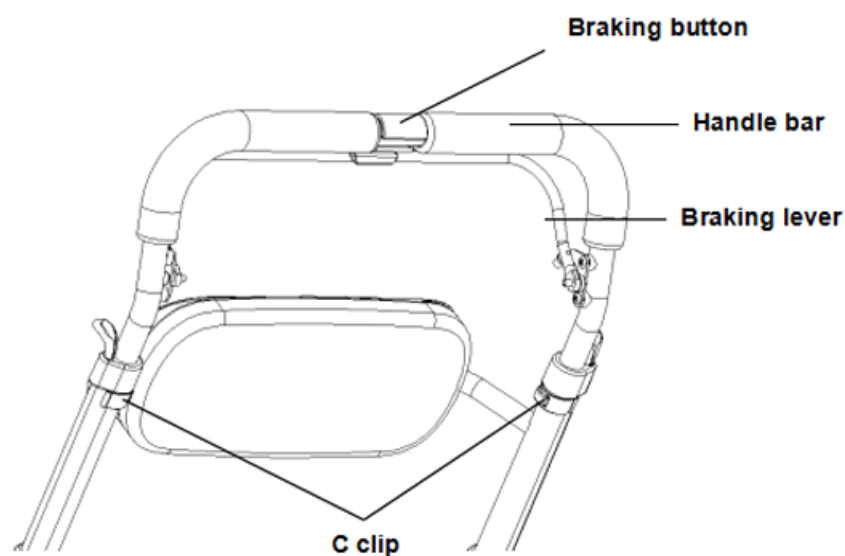

Figure 3
Start by removing the C-clip, then adjust the adjustable handle tube up or down to the desired height (as shown in Figure 3). Secure it in place with the C-clip.
1. Engaging the Brake: Hold the handle and brake lever with both hands, then press the brake lever toward the handle, as illustrated in Figure 3. Next, lock the brake lever using the locking button (see Figure 3). Make sure the brake is engaged when you hear a “click.”